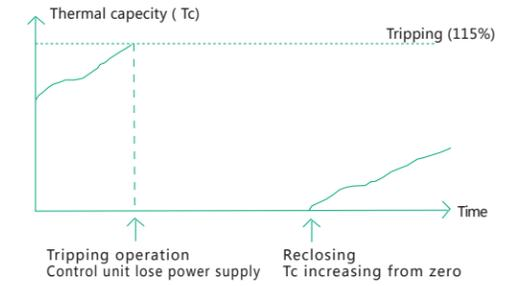

Figure 1 Thermal memory characteristics without auxiliary power
b) For curves except EI(M) type, thermal capacity only increase when measured current exceeds 1.1Ir. Thermal capacity decays exponentially when ACB trips due to overload or inverse time short-circuit or ACB returns from overload state to normal state. Customer can set thermal capacity cooling time as: Instantaneous, 10m, 20m, 30m, 45m, 1h, 2h, 3h.
c) For EI(M) type curve, thermal capacity cooling time can not be set. Thermal capacity varies with current variation.
d) When auxiliary power is not equipped for control unit, thermal capacity generated by previous current will be ignored if ACB reclose immediately after tripping. That is the thermal capacity returns to zero after reclosing. Please refer to Figure 1.